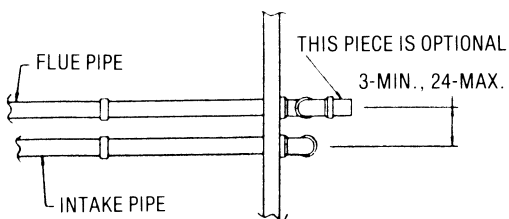
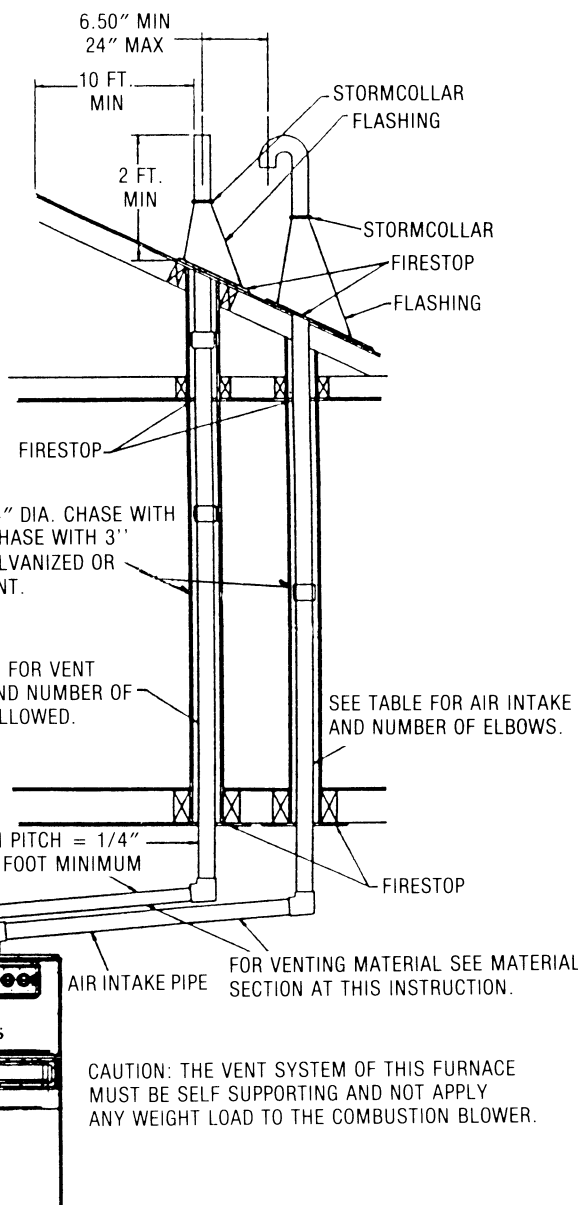

FIGURE 2
FIGURE 3
Prime the trap system by slowly pouring 1/4 cup of water down the Y-trap. Connect the vent pipe to the top of the Y-trap using the supplied neoprene connecting clamp. For horizontal venting refer to Figure 2. For vertical venting refer to Figure 3. The vent pipe on horizontal runs must slope upward away from the furnace at a pitch of 1/4 inch per foot of run. Install a short nipple in the air intake socket. The nipple should be just long enough to protrude through the top panel by three (3) inches. Connect the air intake pipe to the nipple using the supplied neoprene connector. The vent and air intake pipe must be supported with mounting straps to prevent any weight load from the pipe being applied to the furnace components.
NOTE: For proper operation the vent and air intake pipe must be installed in the same pressure zone. Therefore they must be on the same side of the house for horizontal venting applications within the parameters shown in Figure 2.